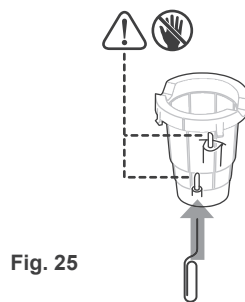

Fig. 25
3. If the two bottom Needles are clogged, then use a paper clip or tooth brush to clean the Needles, and rinse with warm water. (Fig. 25)
CAUTION: There is a sharp Needle underneath the Cover and two sharp Needles inside the Red Cup Holder. To avoid risk of injury and do not put your fingers in the Red Cup Holder. (Fig. 25)